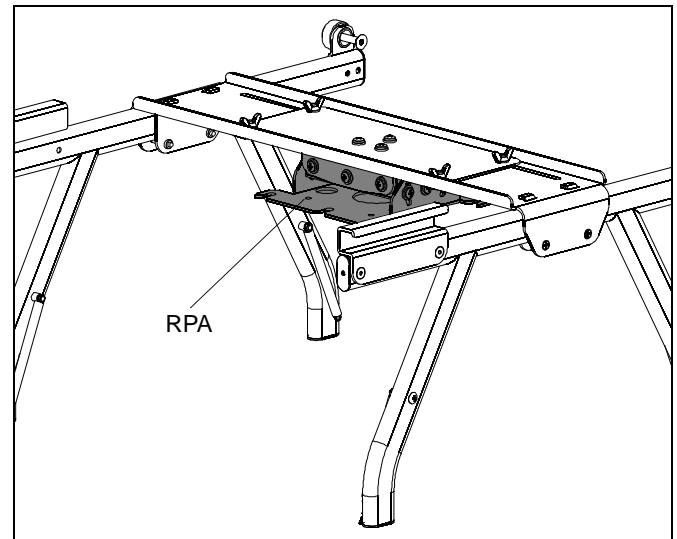

Figure 21
1. Install RPA/RPM (a Listed accessory - not included) to the projector cradle following instructions included with the RPA/RPM. (See Figure 21)